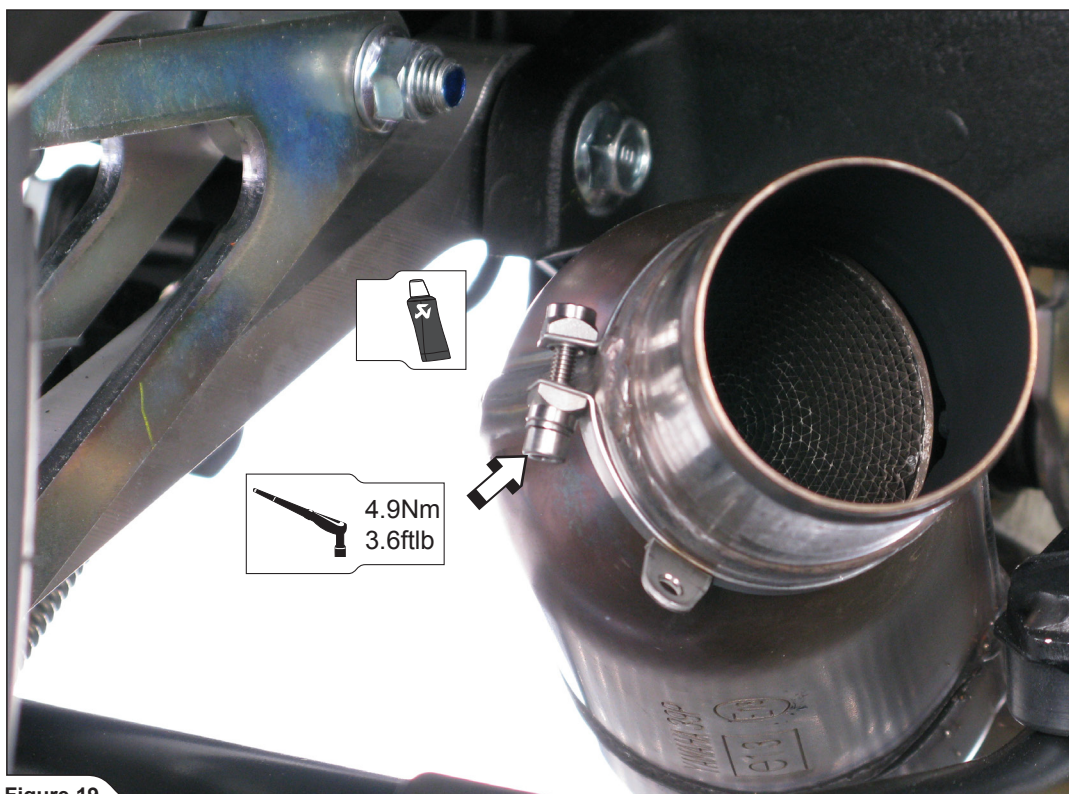

Figure 19
11. Correctly instal Akrapovič hook clamp onto the stock header pipe as shown and tighten it to a specified torque (Figure 19).